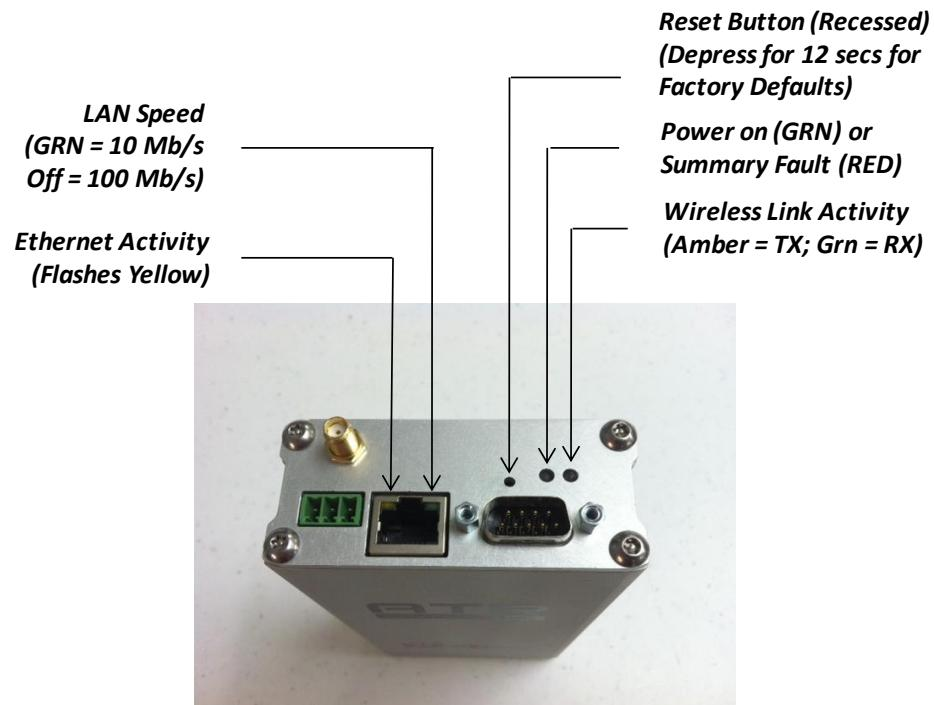

Figure 4: ATR LEDs and definitions
4. Once the power is supplied to the ATR, observe that the green power LED is illuminated. It takes about 7-10 seconds for the ATR to boot-up. After this, only the green power LED should be on. Figure 4 summarizes the LEDs and their meaning.
7. **The default IP address of the ATR is 192.168.1.4.** This address is automatically loaded in the Connect to field at the top. Click on the GET button at the bottom if this default address is still loaded in the ATR and not been changed. **Note: Pressing and holding the recessed Reset button (See Figure 4) for at least 12 seconds will force the radio back to its default settings. The default radio IP address is 192.168.1.4.**
Noise Figure 4 dB